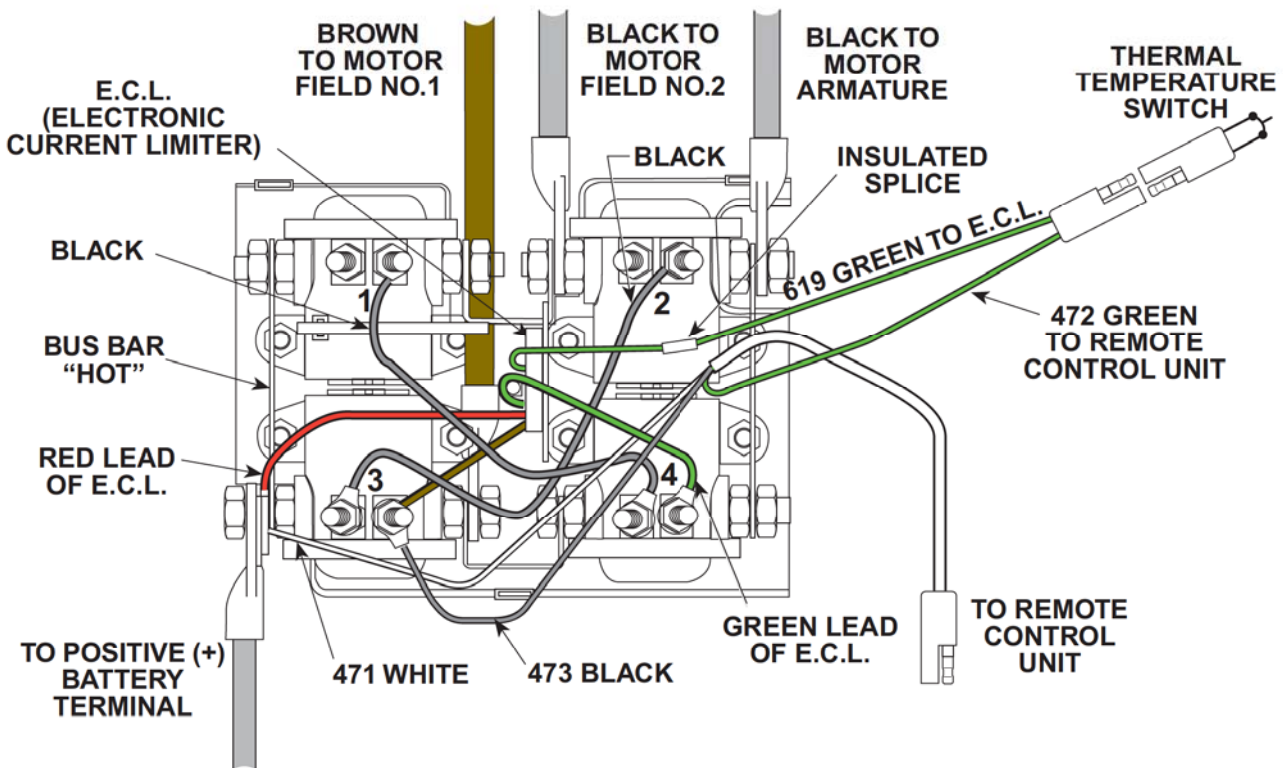

Figure 12-16 Repeat. Winch Testing.
1. If still no power-in, by-pass the ECL as follows: Cut the green ,(#619 ) wire coming from the thermal switch to the ECL near the splice on the ECL side (Figure 12-16). Take the cut wire coming from the thermal switch and connect it to solenoid #4 on the same terminal that the green ECL wire is attached (Figure 12-16). The winch should operate in both directions. If not, continue with the troubleshooting steps.